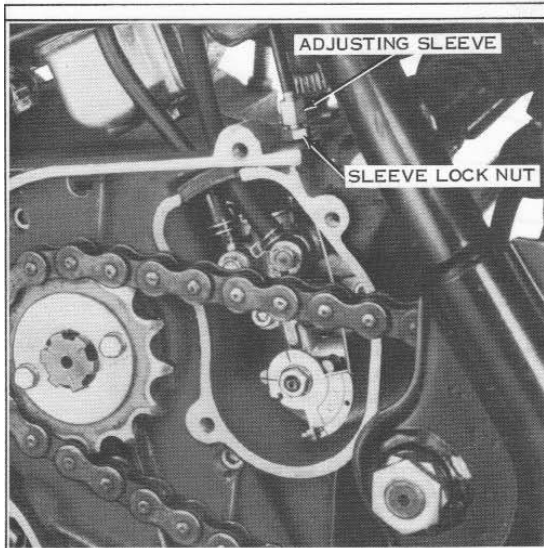

Figure 3.38. Adjusting Lubricating Pump
Refer to Figure 3.38. Adjustment or pump flow rate is made at control coil adjusting sleeve (1).